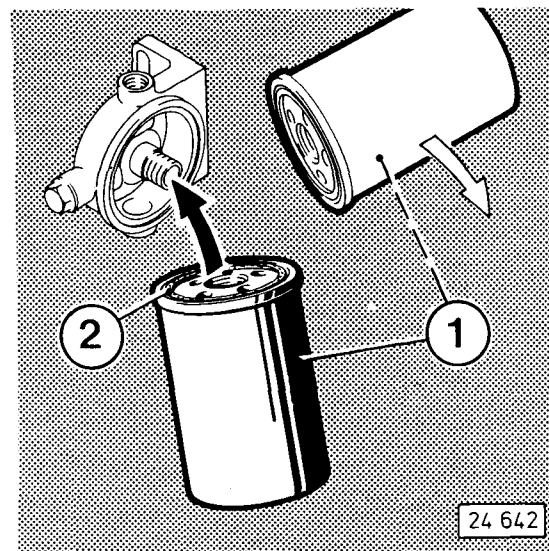

Fig. 56
- Screw off fuel filter cartridge 1 (Fig. 56), using special tool if necessary.